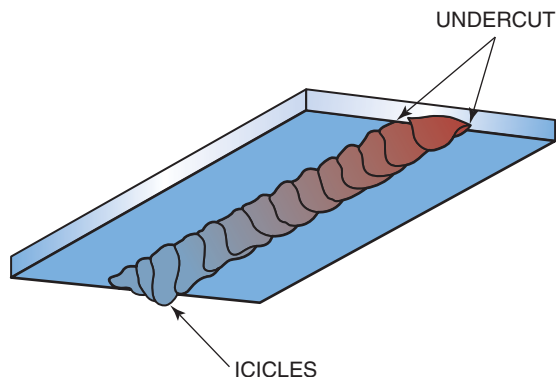

Figure 2.41 Overhead weld
- Small molten weld pool size—The smaller size of the molten weld pool allows surface tension to hold it in place. Less molten weld pool sag results in improved bead contour with less undercut and fewer icicles, Figure 2.41.